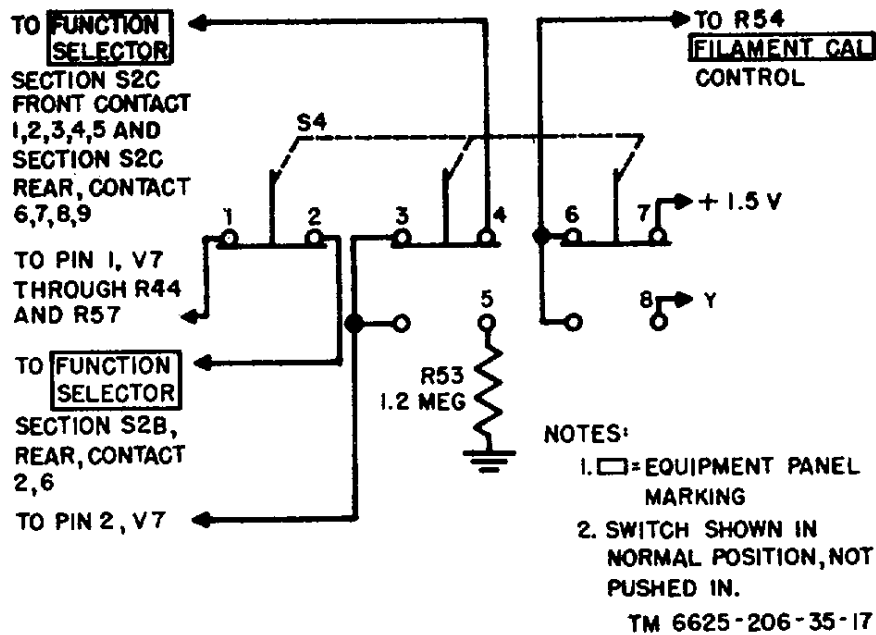

Figure 15. PRESS FOR FILAMENT CAL switch S4, partial diagram.
b. DC CENTER ADJ. The input grid, pin 2 of V7, is connected as in a above. Plate pin 1 of V7 is connected through the PRESS FOR FILAMENT CAL switch (fig. 15) through contact 2 of S2B rear and through DC CENTER ADJ control R39 to the 150-volt supply.